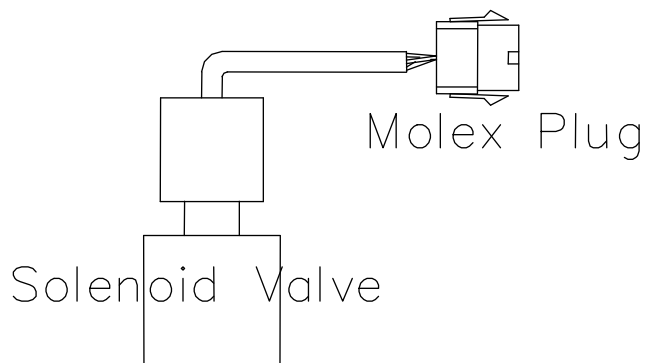

FIGURE 9
- 3 Plug the connector on the solenoids on the underside of the burner unit to the mating plug on the switch panel of the fire. (See Figure 9)